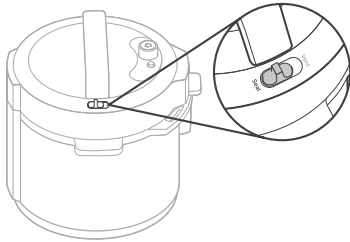

Figure 1.1
- When cooking with a pressurized cooking function, the steam release switch will automatically move to 'Seal' when closed. **[Figure 1.1]**